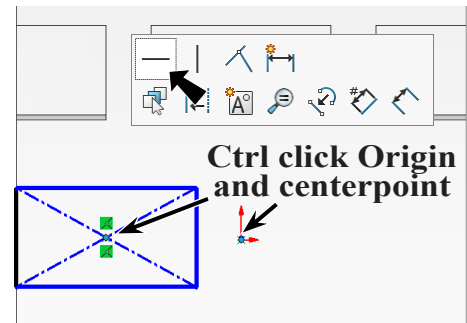

Fig. 27
Step 9. **Ctrl click Origin**  and **centerpoint of rectangle** to select both. Release Ctrl key and click **Make Horizontal**  on the context toolbar, **Fig. 27**.